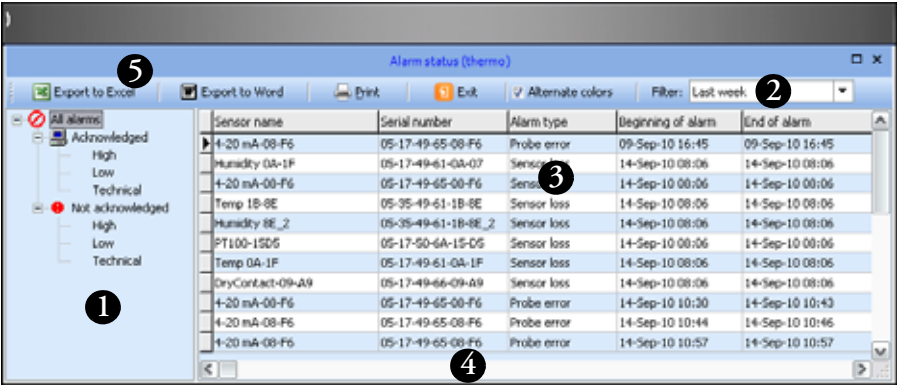

Figure 81. Viewing and printing alarms
3. Use the tree structure (#1 in Figure 81) to filter the alarms displayed by type and/or by acknowledgement status.